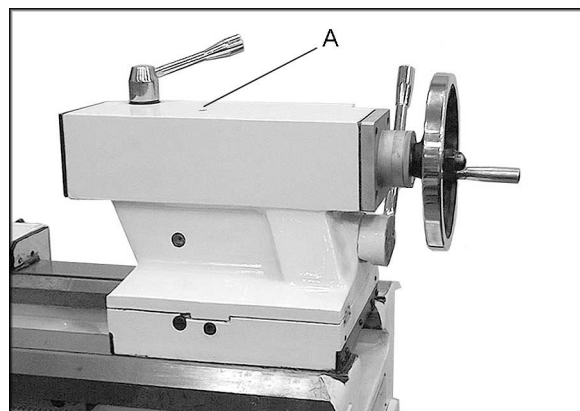

Figure 8
8. **Tailstock** – Daily lubricate one ball oiler (A, Figure 8) on top of tailstock with Mobil DTE® Oil Heavy Medium.